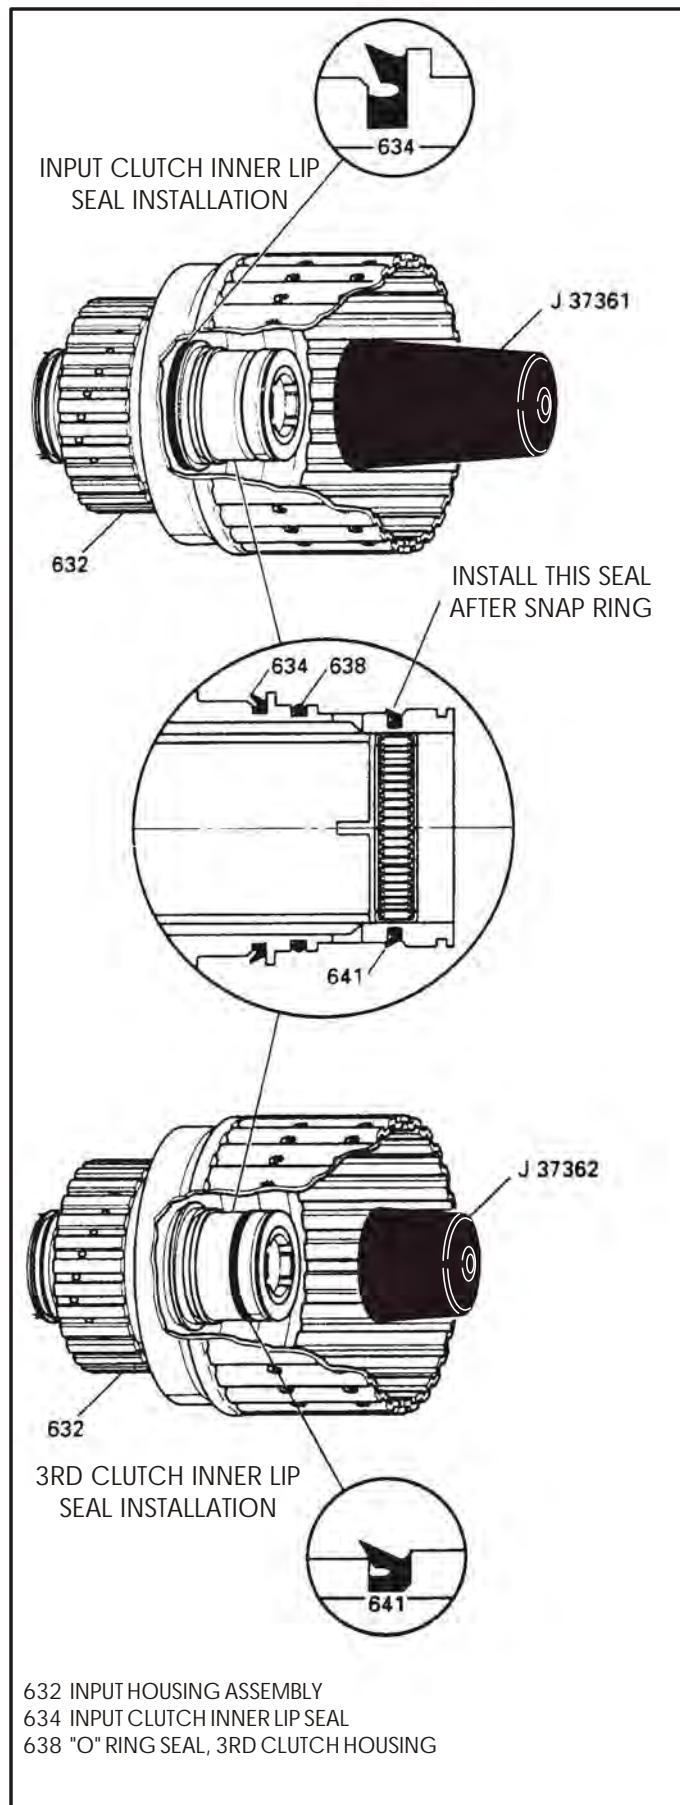

Figure 110
19. Install the input clutch inner lip seal into the housing in the direction shown in Figure 110, using J37361 installation tool (See Figure 110).
20. Install the "O" ring into the proper groove in the input housing, as shown in Figure 110.
27. After the 3rd clutch housing snap ring has been installed, install the 3rd clutch piston inner lip seal into the housing, as shown in Figure 110.